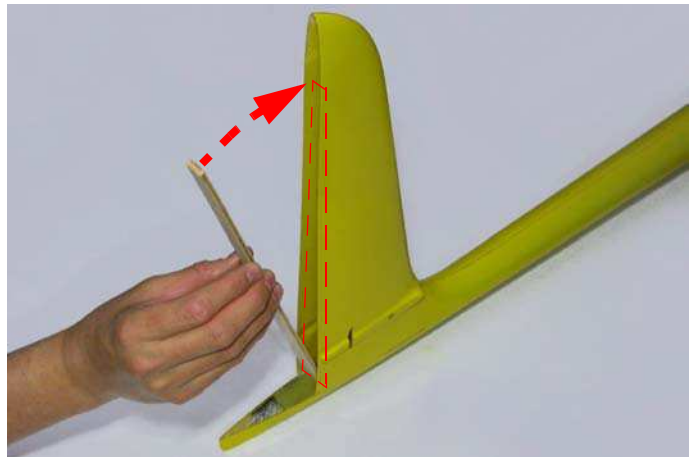

Fig.33: Insert the reinforcement.
- insert the reinforcement “RDER” positioning it one centimeter inside the edge of the fin (see figure 33);